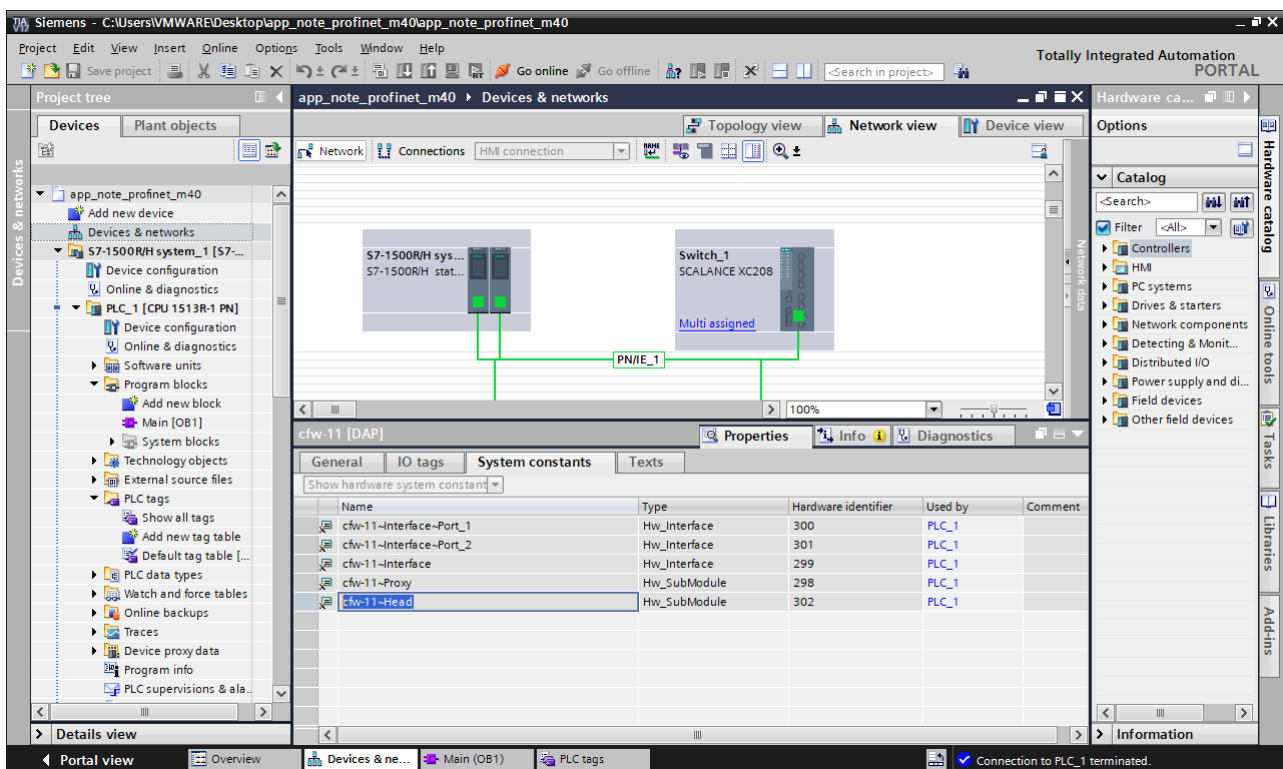

Figure 7.8: Hardware Identification
- ID - hardware identifier each device, as show in Figure 7.8.